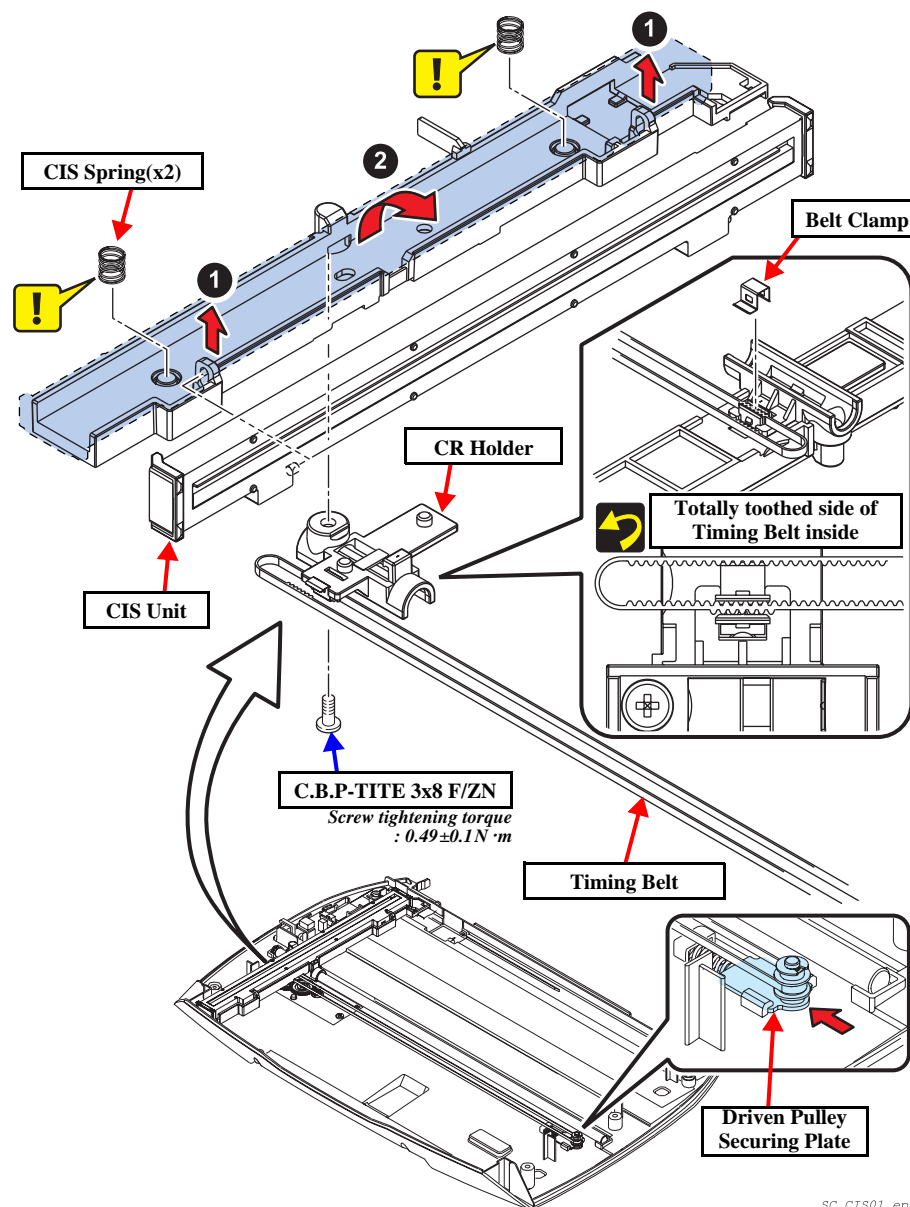

Figure 4-8. CIS Unit Removal
- Install the Timing Belt as shown in Figure 4-8.